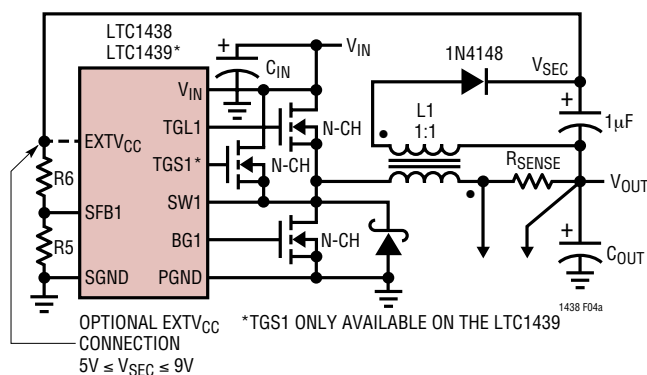
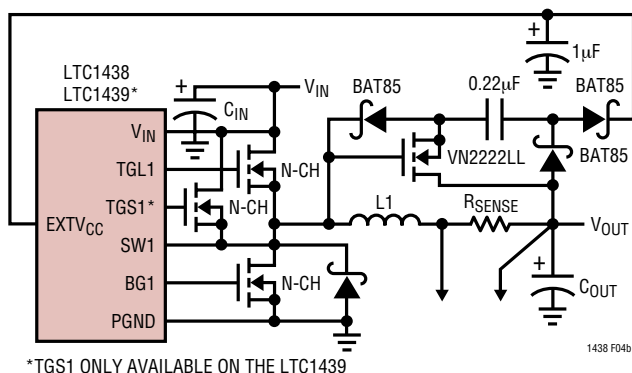

Figure 4a. Secondary Output Loop and EXTV_{CC} Connection
Figure 4b. Capacitive Charge Pump for EXTV_{CC}
- EXTV_{CC} connected to an output-derived boost network. For 3.3V and other low voltage regulators, efficiency gains can still be realized by connecting EXTV_{CC} to an output-derived voltage which has been boosted to greater than 4.8V. This can be done with either the inductive boost winding as shown in Figure 4a or the capacitive charge pump shown in Figure 4b. The charge pump has the advantage of simple magnetics.
The secondary output voltage is set by the turns ratio of the transformer in conjunction with a pair of external resistors returned to the SFB1 pin as shown in Figure 4a. The secondary regulated voltage V_{SEC} in Figure 4a is given by: